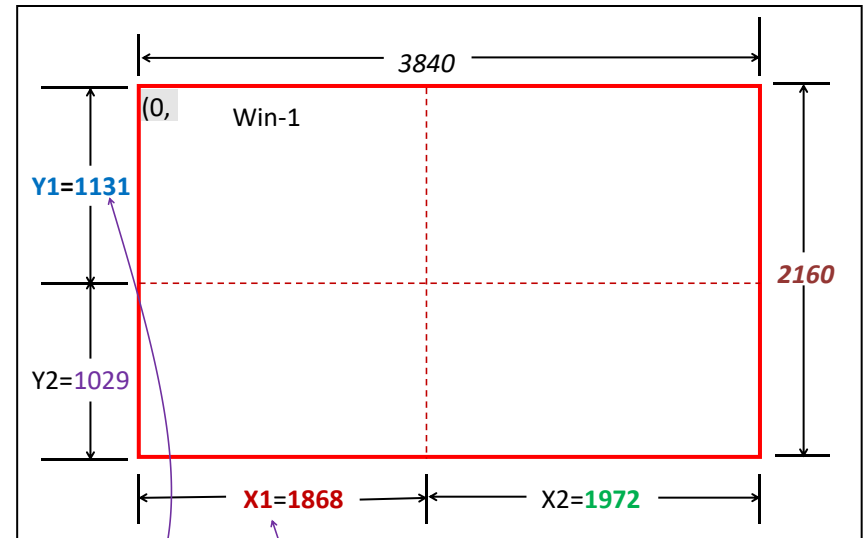

Figure AP1-1
- Ap1.1) As Figure Ap1-1, need **A65** display AP1-1 image on AP1-2 LED, **A65** 4 DVI output jointly drive the screen